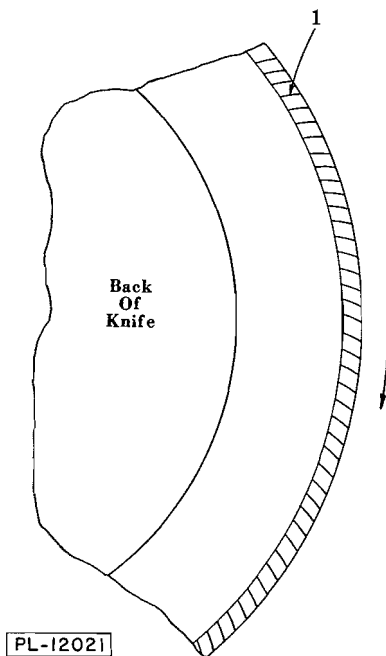

Fig. 5
6.10 Check to make sure that the characteristic grind marks (1, Fig. 5) are plainly visible on the ground surface, if not the grinding wheel is not cutting. (Many operators try to sharpen a knife with a grease-loaded stone which will not cut).